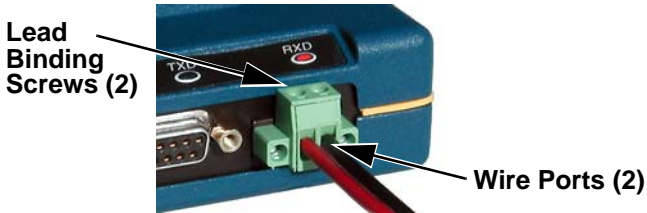

Figure 14. Power Connector
4. Measure and install the primary power for the transceiver. It must be within 6–30 Vdc (including transients) and be capable of providing 7.5 watts over this voltage range. (Typical current draw is 400 mA @ 13.8 Vdc; 0.9 A @ 6 Vdc.) A power connector with screw-terminals is provided with each unit. Strip the wire leads to 0.25”/6 mm. Be sure to observe proper polarity. The left pin is the positive input; the right is negative. (See Figure 14.)
Only the power connector, shown in Figure 14 with screw terminals and two retainer screws should be used with this unit.